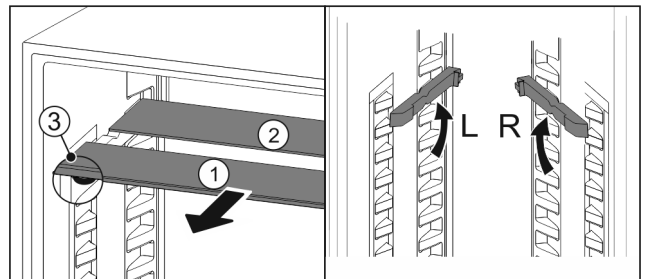

Fig. 18
- ▶ Pull the glass panels out Fig. 18 (1) from the front, one at a time.
- ▷ The glass panel Fig. 18 (1) with the trim strip is at the front.
- ▷ The stops Fig. 18 (3) point downward.